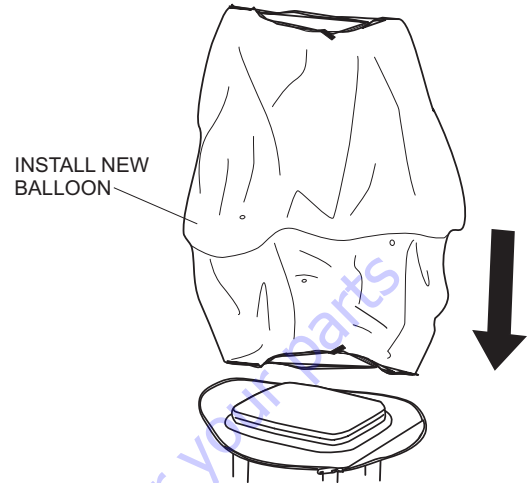

Figure 40. Replacing Balloon
3. Slide in the new replacement balloon over the top of the lamp guard assembly. See Figure 40.